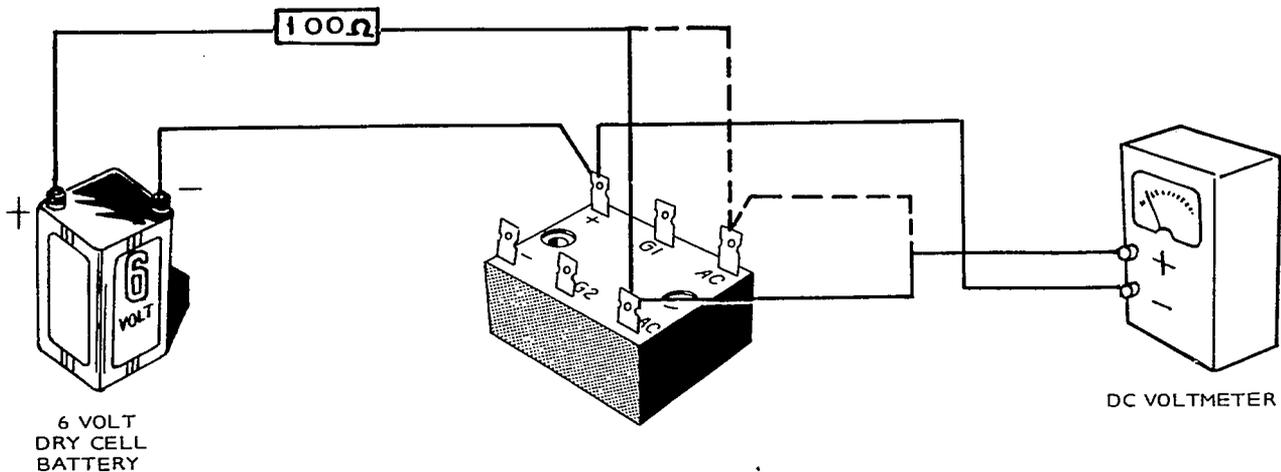

FIGURE 27. TESTING SCR
Disconnect wires from rectifier unit prior to testing. Test unit in order shown in Table 5. Refer to Figure 27 for SCR1 and SCR2 test circuit. When test is complete and satisfactory, reconnect unit observing correct wiring hook-up.
* Apply temporary jumper from AC1 to G1 to test SCR1. Remove jumper, read voltmeter. See Figure 27.
** Apply temporary jumper from AC2 to G2 to test SCR2. Remove jumper, read voltmeter. See Figure 27.